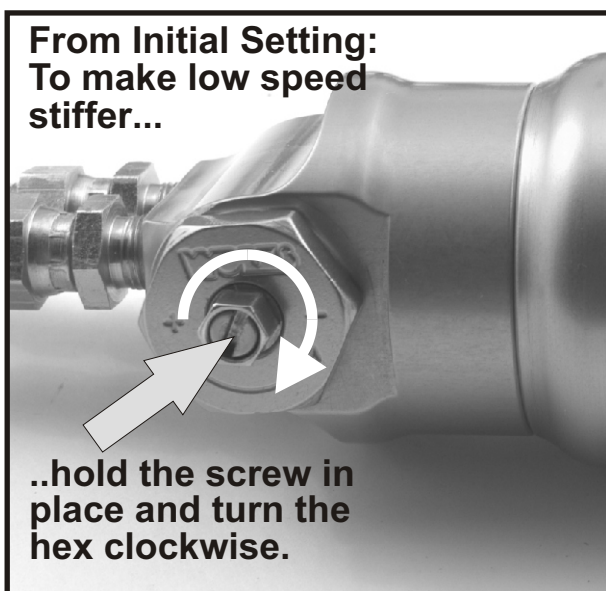

Fig. 2
4. As required, add low speed compression by turning the hex clockwise (See Fig. 2). While making low speed compression adjustments, the slotted high-speed compression adjuster screw must be held in position. Once the low speed adjustment has been made,